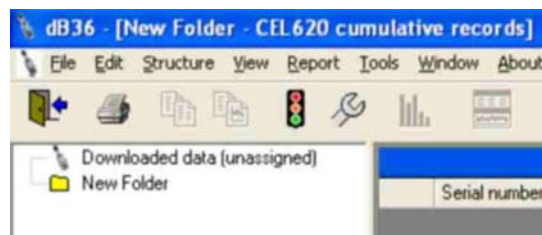

Figure 16 New Folder below the CEL-6X0
- (C). The new folder is listed in the left hand below the CEL-6X0. (Refer to Figure 16)